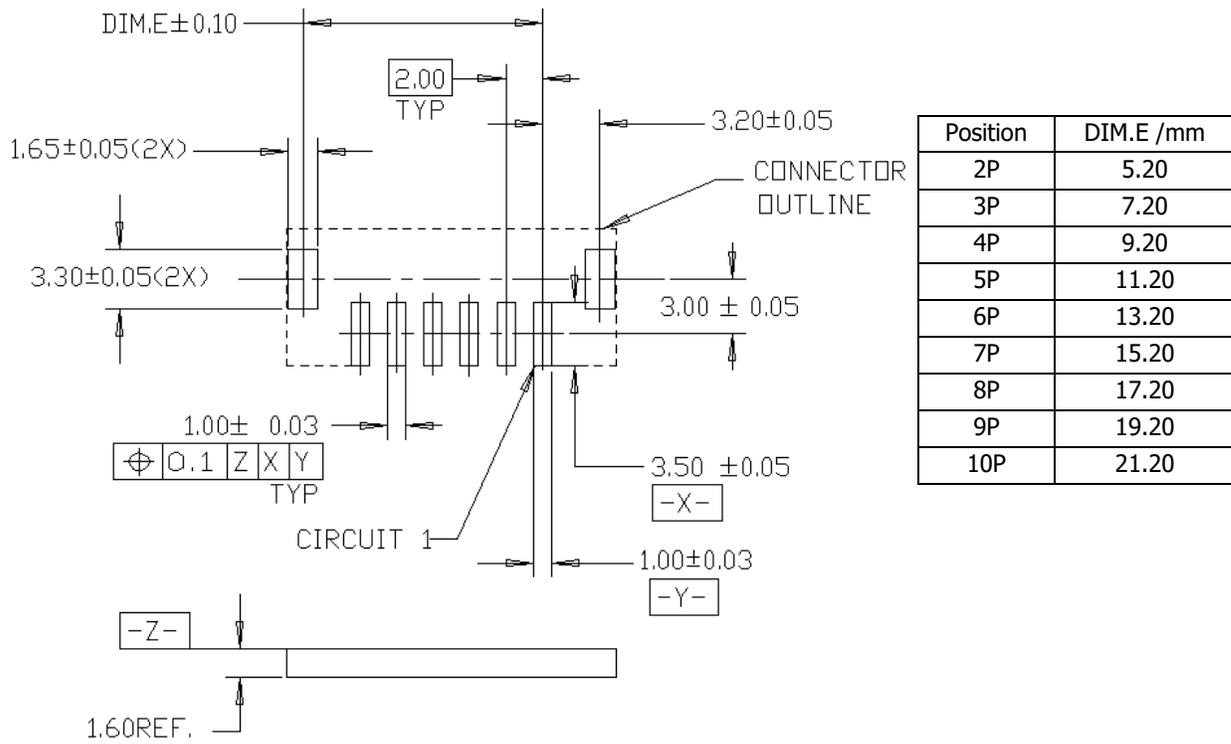

Figure 11
- Recommended PC board pad pattern, dimensions, and tolerances are shown in Figure 11 for Vertical SMT Type.